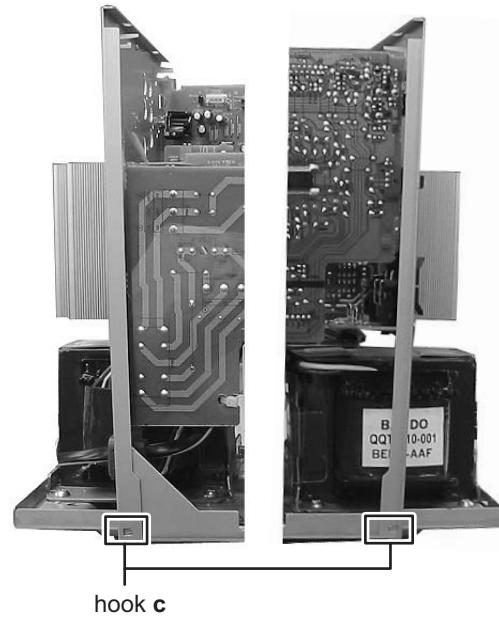

Fig.11
(2) Remove the rear panel from the hook c. (See Fig.11)